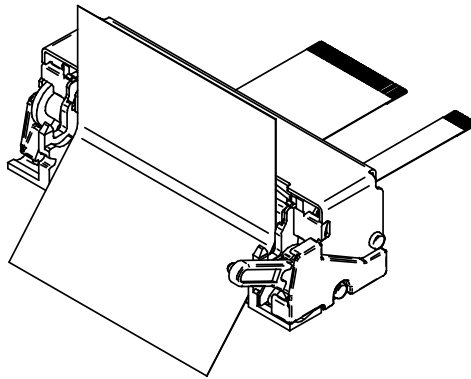

Figure 8-1b Installing the Thermal Paper by the Easy Operation
- Set the thermal paper straight to the printer and leave at least 5cm of the thermal paper come out from the printer mechanism in the Figure 8-1b.